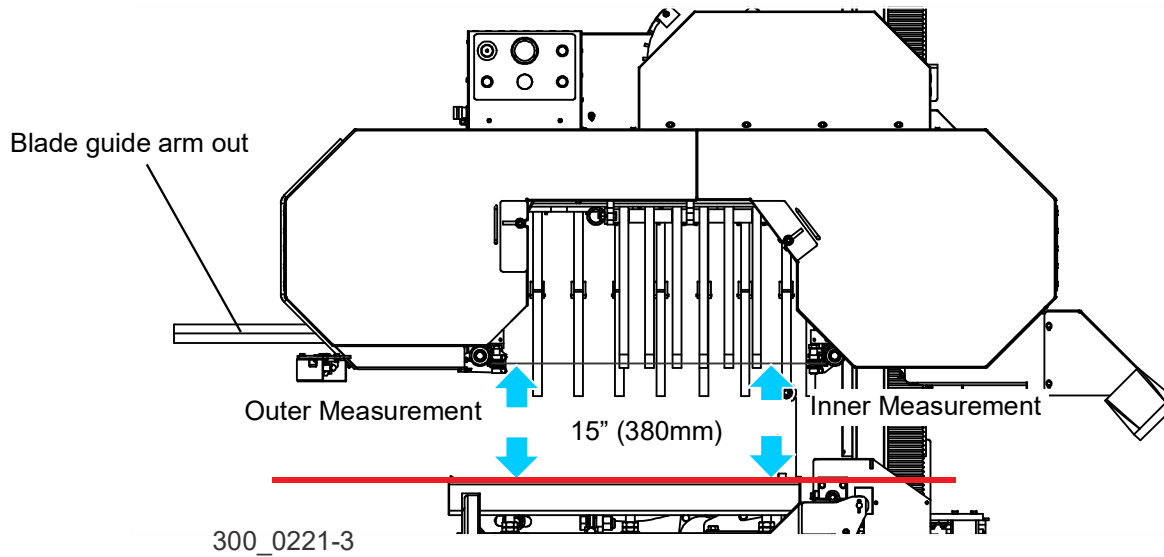

FIG. 3-33
NOTE: The two measurements should be equal. If necessary, adjust the lower track rollers to tilt the saw head so the blade is parallel to the laser beam. See Fig. 3-33 and 3-34.
- a. Move the saw head to the first leg location to measure from the blade to the laser beam at both blade guide assemblies. See Fig. 3-33.